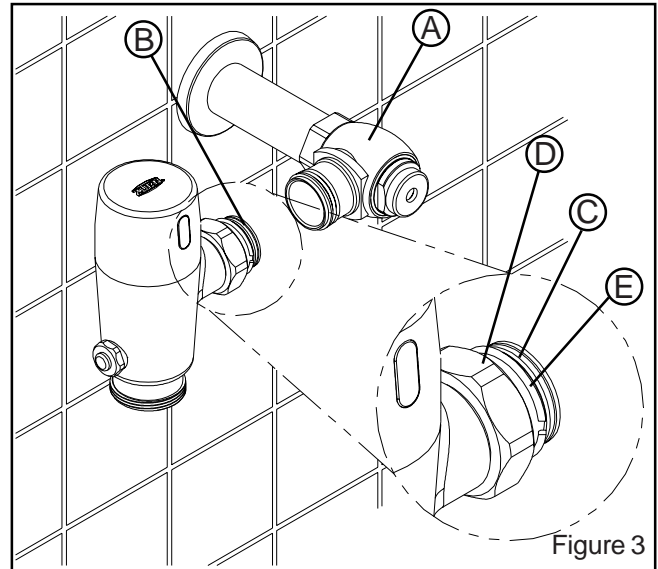

Figure 3
- 3.) Prior to inserting the flush valve tailpiece (B) into stop valve (A), be certain that the O-ring seal (C) is located in O-ring seal groove at the end of the tailpiece and that the locking nut (D) and locking snap ring (E) are located as shown. Care should be taken not to damage the O-ring when inserting the tailpiece into the stop valve. If lubrication is needed, wetting the O-ring with water will be sufficient. Tighten all connections with a non-toothed wrench. **See Figure 3**